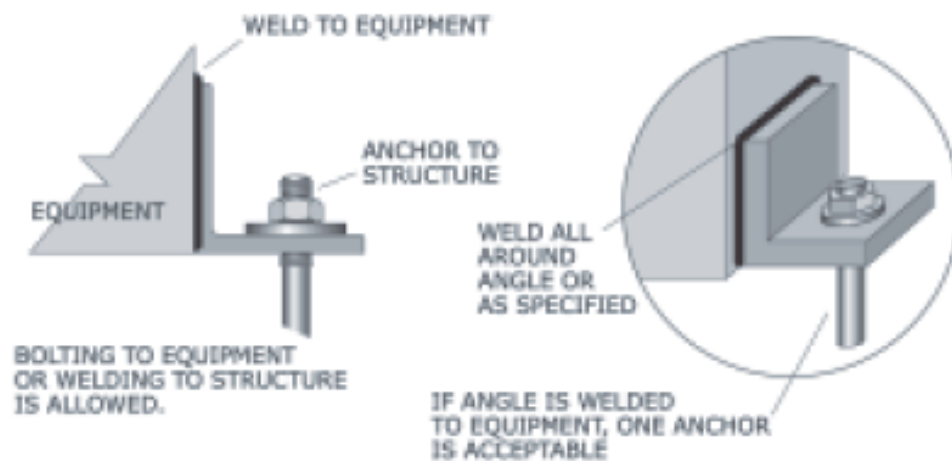

Figure 73: Four or more angles welded to equipment and bolted to the floor/pad.
- Four or more angles welded to equipment and bolted to the floor/pad: Figure 73 (page 37).